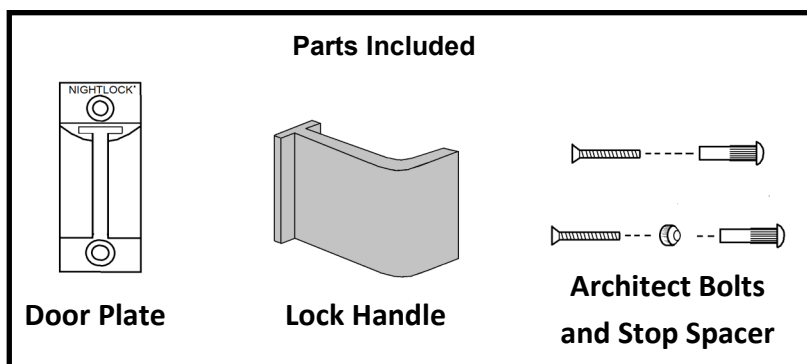

FIG. 1
Step 1. To locate mounting holes, position Door Plate and Lock Handle (engaged), at inside bottom of closed door, with Lock Handle overlapping door frame soffit, at opening side of door, (FIG 1) at recommended height of 2" above floor. Mark hole locations.